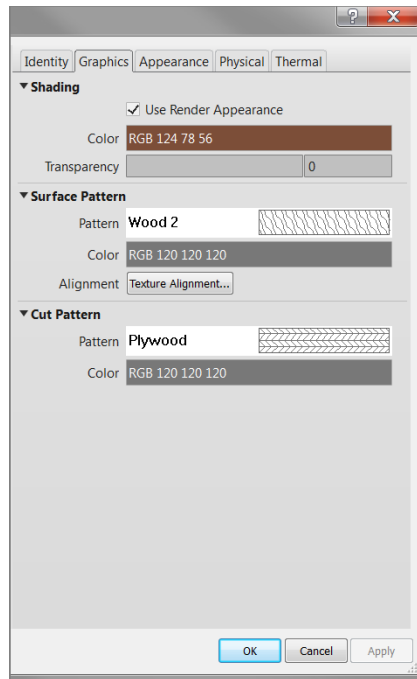

FIGURE 9.32: Making mahogany
10. Now that Mahogany is current, make sure you're on the Graphics tab, and make the values match Figure 9.32.